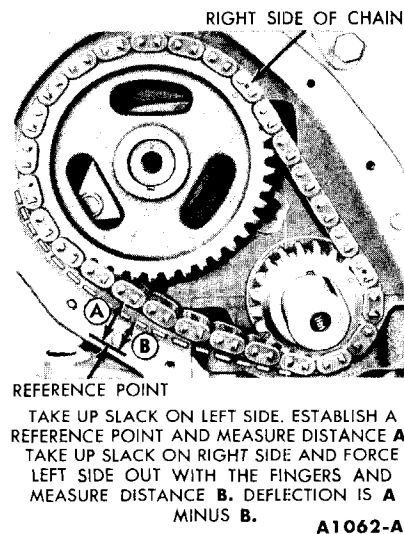

FIG. 22—Timing Chain Deflection
8. Establish a reference point on the block and measure from this point to the chain (Fig. 22).